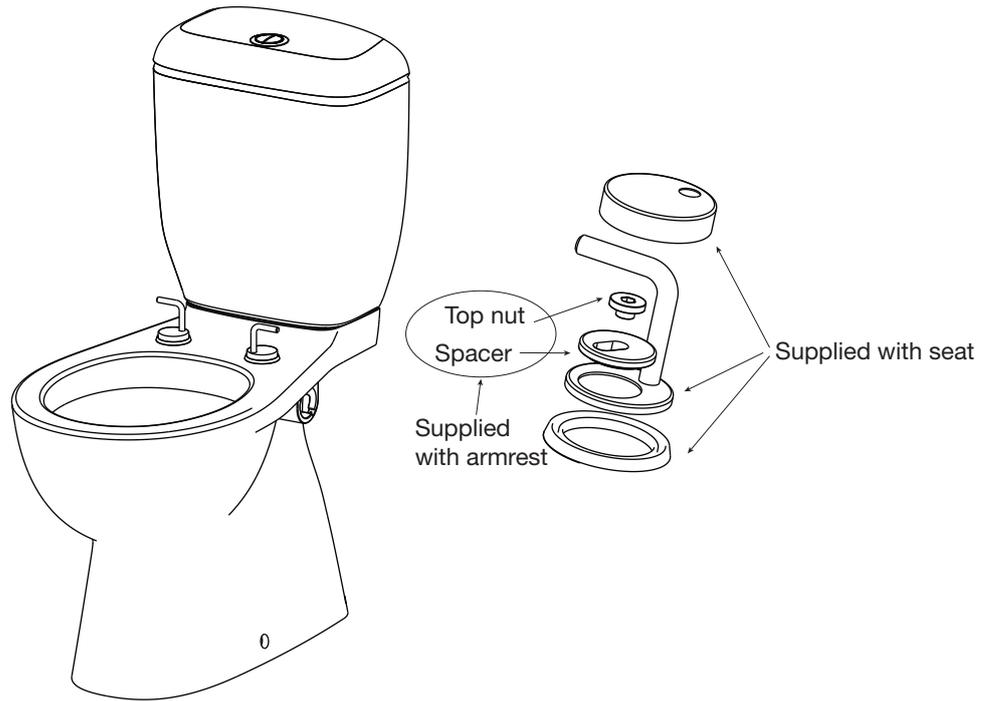

Fig. 9
9. Fix seat to pan as shown in **Fig. 9**. Ensure that you use the spacer provided in the armrest kit. **Discard original spacer supplied with seat, use spacer supplied with armrest.**